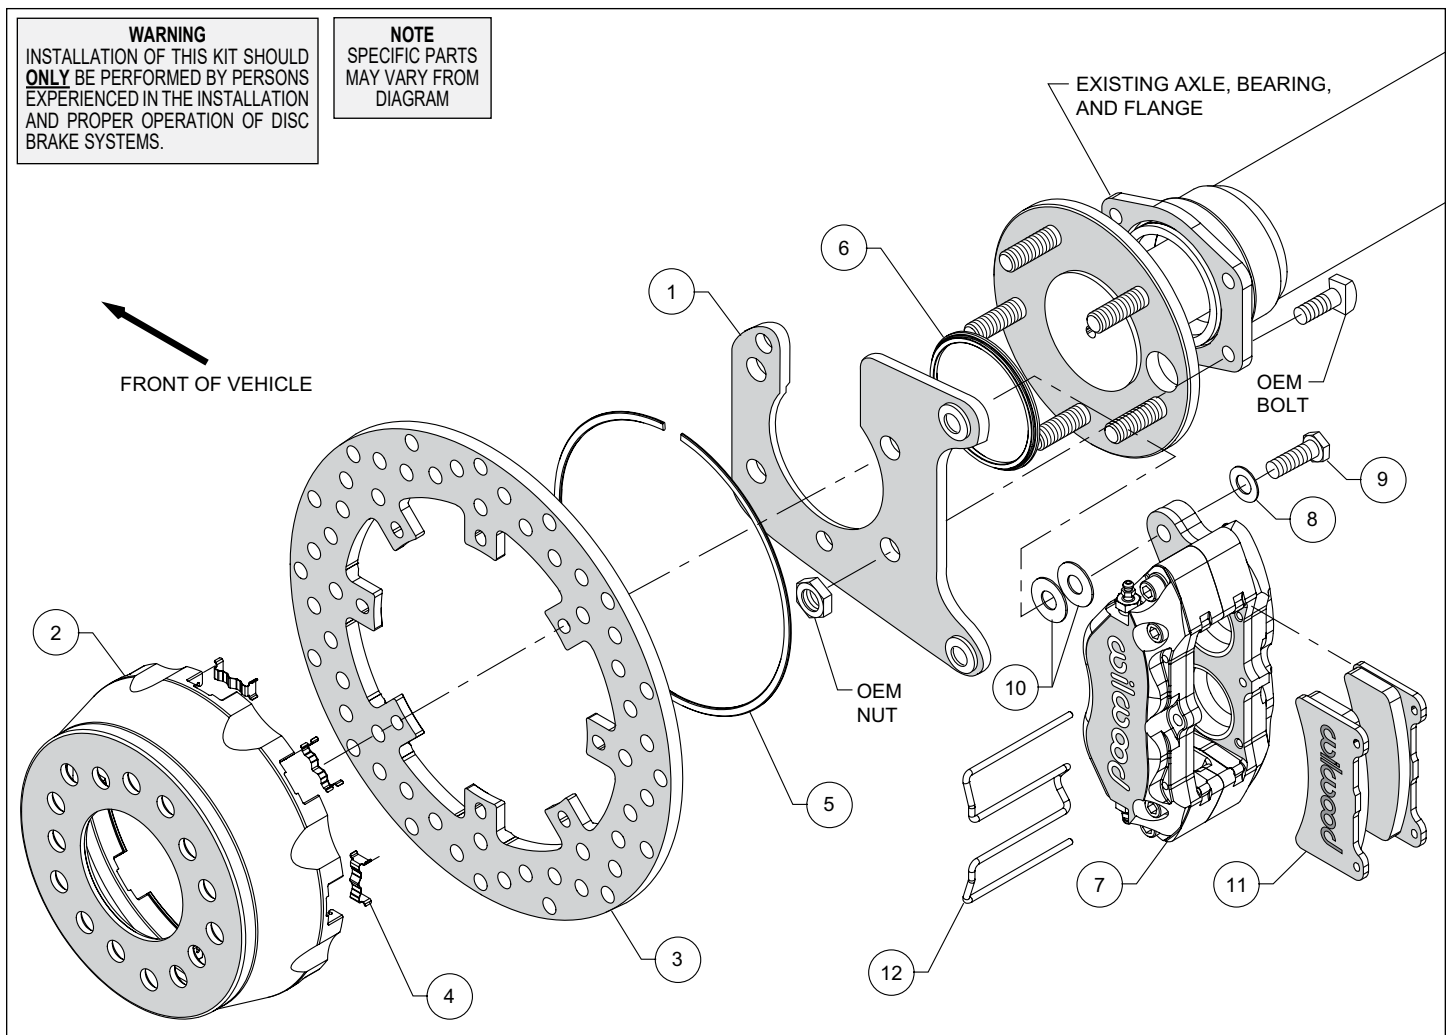
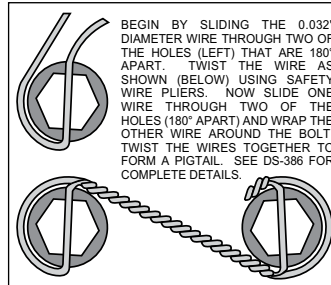
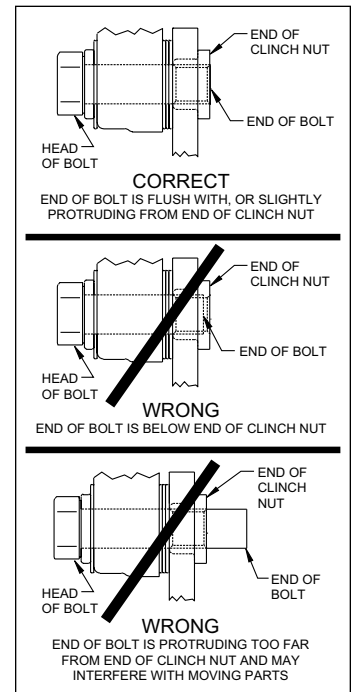

Figure 1. Typical Installation Configuration
Figure 4. Safety Wire Diagram
Figure 5. Clinch Nut Engagement Diagram
**Assembly Instructions** (numbers in parenthesis refer to the parts list and Figure 1 on the preceding pages): **CAUTION:** All mounting bolts must fully engage clinch nuts. Be sure to check that all bolts are either flush or protruding through flanged side of clinch nut after shiming, Figure 5.
- Install the caliper mounting bracket (1), with the slot for the axle pointing upward, to the housing flange using the OEM bolts and nuts, as shown in Figure 1 and Photo 1. Ensure that the heads of the clinch nuts are facing outboard, Photo 1. Apply red *Loctite*® 271 to the OEM bolt threads and torque to OEM specifications.
- Insert the dynamic mount wear plates (4) into the slots in the hat (2) making sure the tabs snap in place, Photo 2. Orient the rotor (3) as shown in Figure 1 and Photo 3, with the flush mount tab side facing the hat. Attach the rotor to the hat using snap ring (5) by pushing down on the rotor and installing the ring into the groove in the hat, as shown in Photo 4. Ensure that the ring is fully engaged in the groove.
- Slide the rotor registration adapter (6) onto the axle register on the axle flange with the smaller O.D. facing toward the hat (2), Photo 5. Align the correct hole pattern in the hat with the axle stud pattern and slide the hat/rotor assembly onto the axle hub. **NOTE:** The hat must fit flush against the axle flange or excessive rotor run out may result. Install three lug nuts (finger tight) to keep the hat/rotor in place while continuing with the installation. **NOTE:** Some OEM and aftermarket axles come with stud sizes larger than 0.50" diameter. Verify stud size, and if necessary, have a qualified machine shop drill the hats to the correct size.
- NOTE:** Please reference the caution statement at the beginning of the assembly instructions. Mount one caliper (7) onto the mounting bracket (1) using bolts (9) and washers (8), as shown in Figure 1. Initially place two .035" thick shims (10) on each bolt between the caliper and the bracket, Photo 6. Temporarily tighten the mounting bolts and view the rotor (3) through the top opening of caliper. The rotor should be centered in the caliper, Photo 7. If not, adjust the caliper by adding or subtracting shims between the bracket and the caliper. Always use the same amount of shims on each of the two mounting bolts. **NOTE:** The end of each bolt must be flush with or slightly protruding from the head of the clinch nut. If necessary, place spare shims between
washer and caliper mounting ear to achieve the proper clinch nut engagement, as shown in Figure 5. Once the caliper alignment and clinch nut engagement are correct, remove the bolts one at a time, apply red *Loctite*® 271 to the threads, and torque to 40 ft-lb. For an added measure of security, the bolts may be safety wired using standard 0.032 inch diameter stainless steel safety wire as shown in Figure 4. Please refer to Wilwood's data sheet DS-386 (available at [www.wilwood.com/Pdf/DataSheets/ds386.pdf](http://www.wilwood.com/Pdf/DataSheets/ds386.pdf)) for complete safety wire installation instructions. Repeat this procedure for the second caliper.